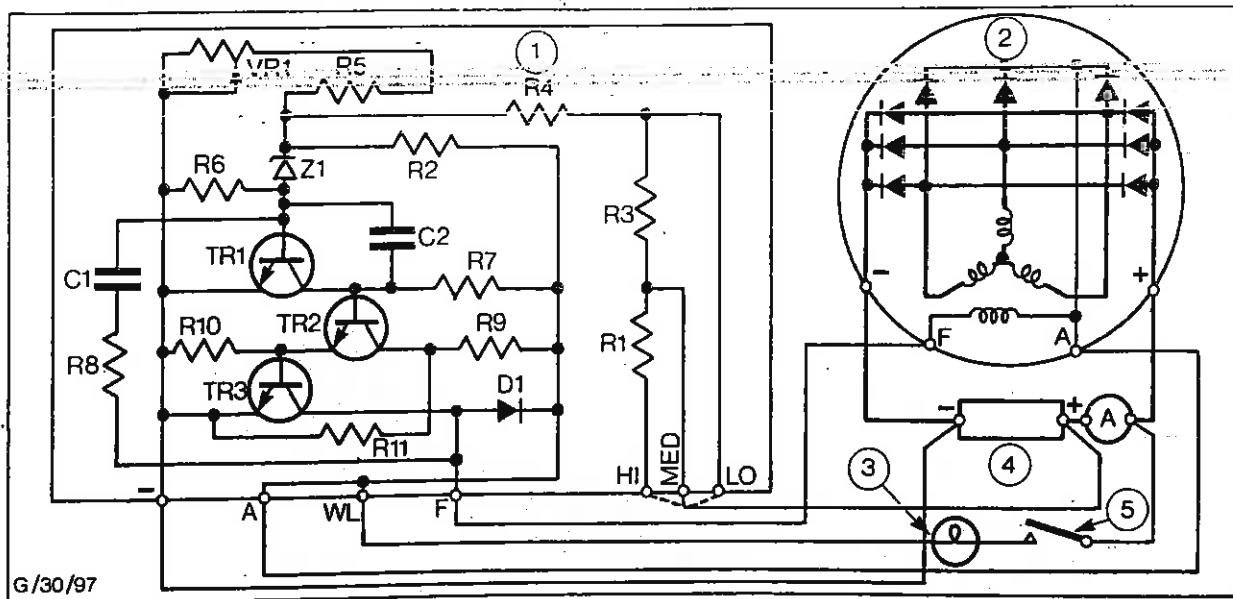

Fig. 58 - Schematic Wiring Diagram of AC5 Charging System
The initial field excitation is supplied from the battery through the warning light when the start switch is closed, connected as shown in Fig. 58.
In function 3; the regulator is to control the alternator output voltage. This is done by rapidly switching on and off the alternator field voltage by means of transistors, while a Zener diode provides the voltage reference - refer to Fig. 58 while reading the following explanation.
Before carrying out any tests, check that all terminal connections are correct - see Fig. 58.
2. If an ammeter is not already fitted, connect the test ammeter in the alternator positive line as shown in the wiring diagram in Fig. 58.